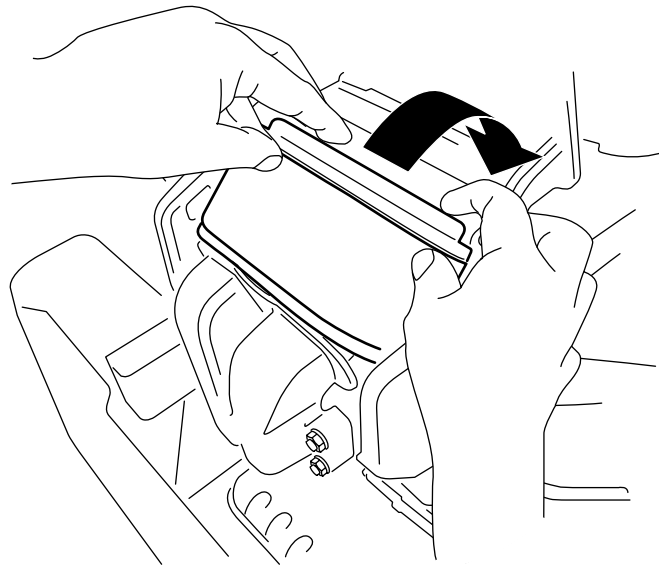

Figure 38
3. Rotate the filter down into the chamber and fully seat it against the manifold (Figure 38).